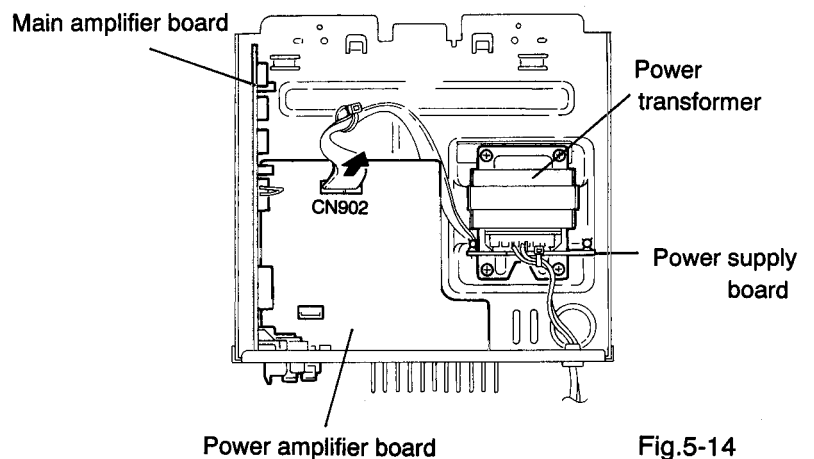

Fig.5-14
7. Disconnect the parallel wires protruding from the power supply board from connector CN902 of the power amplifier board.(See Fig. 5-14)